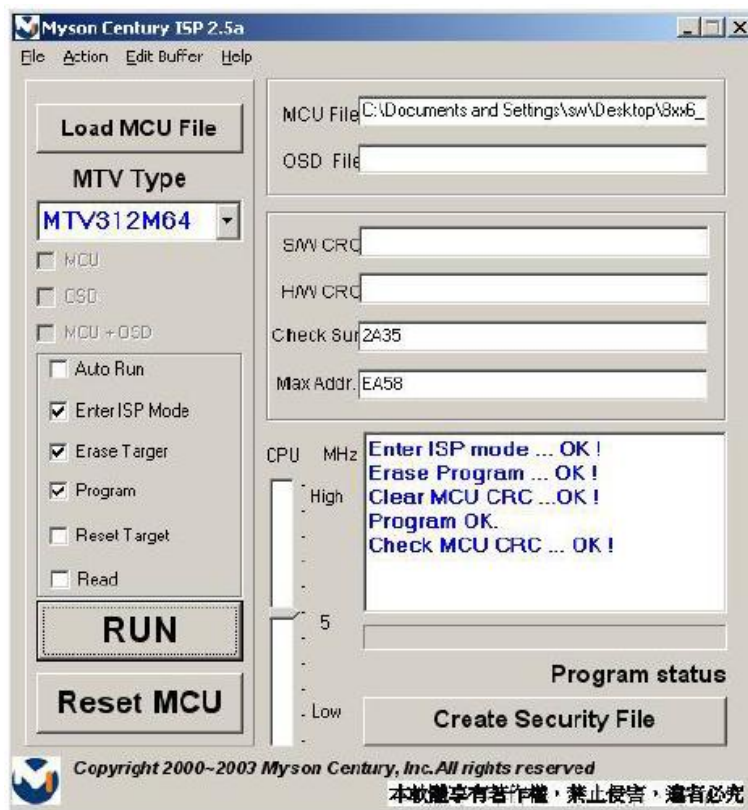

Fig. 3.2
- 3.3 CRC (cyclic redundancy check) : the host can check CRC register's result instead of reading every byte in flash. The message of **Check MCU CRC OK** means that the host verify OK for the progress of program , see Fig.3.2